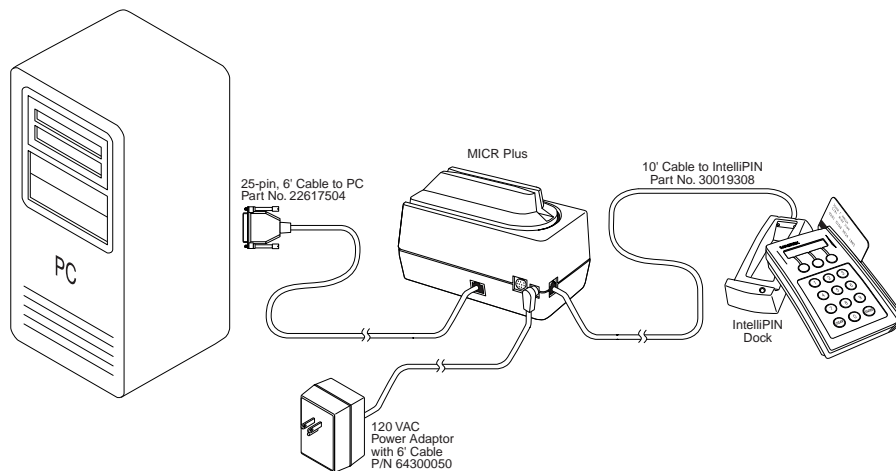

Figure 2-2. MICR Plus Connections
3. If an external RS-232 device is to be used, connect the cable from the RS-232 device to the RS-232 auxiliary port. An example is shown in Figure 2-2.